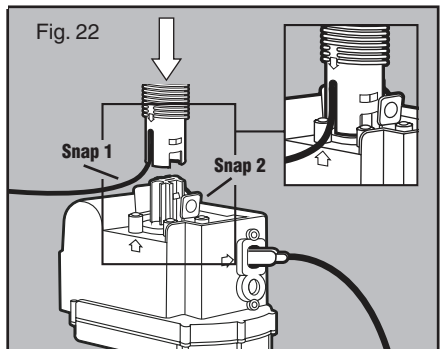

Fig. 22
23. Align the orange arrow on the motor module with the orange arrow on the threaded soap discharge head. Push the motor module up until BOTH snaps lock into place. (see figure 22)